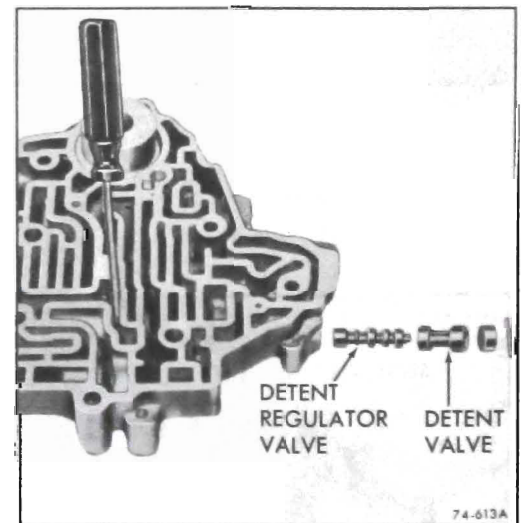

Figure 76-613
8. In the next bore up, install the detent spring and spacer. Compress spring and secure with small screwdriver. See Figure 76-613.
9. Install the detent regulator valve. Wide land first. See Figure 76-613.
10. Install the detent valve, narrow land first. See Figure 76-613.
bore plug (hole out) and retaining pin are installed. See Figure 76-613.